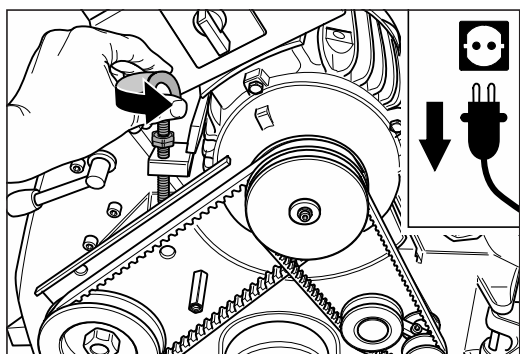

Fig. 65 Release the V-belt tension by loosening the tensioning bolt at the motor.
- 5 Release the tension of the V-belts by turning the tensioning bolt at the motor counterclockwise (fig. 65).